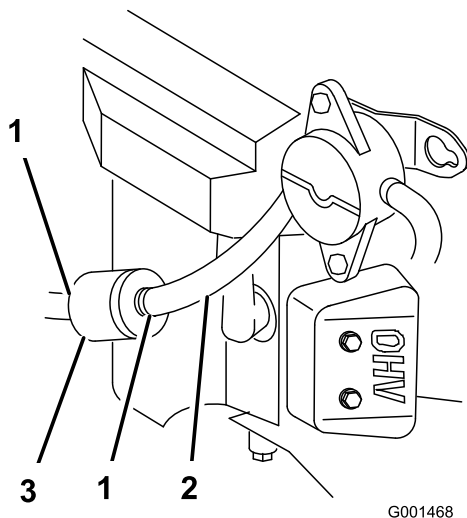

Figure 51
3. Clean around the fuel cap to prevent debris from getting into the fuel tank (Figure 51).
4. Squeeze the ends of the hose clamps together and slide them away from the filter (Figure 51).